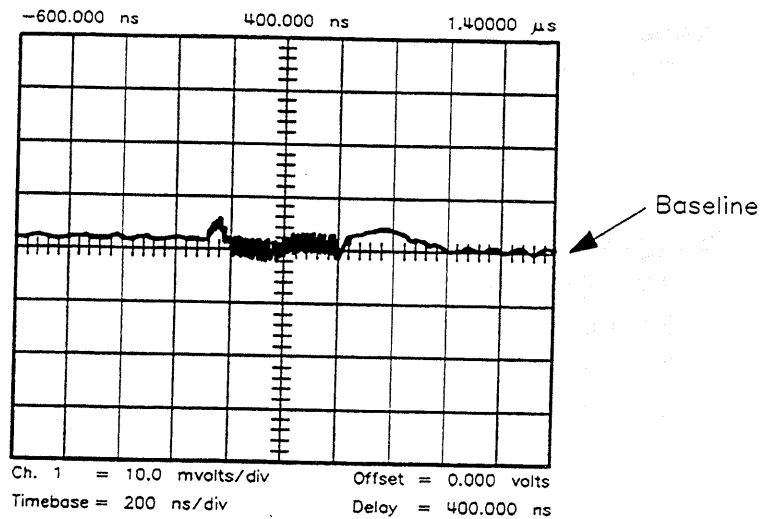

Figure 2-22. Measuring Maximum Voltage from the Baseline Video Feedthrough
16. On the oscilloscope, note the maximum voltage from the baseline (see Figure 2-22). Video feedthrough (V_p) = _____ V_p